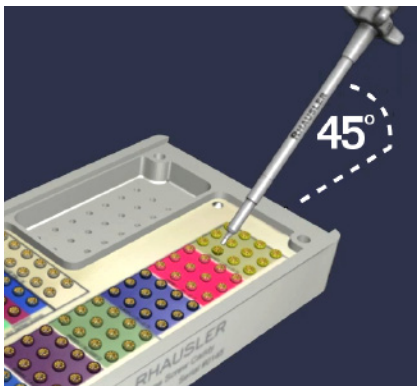

Figure 43
- When engaging the bone screws in the screw caddy, bring the hex end of the screwdriver to the selected bone screw at a 45-degree angle while holding the back end of the handle with one hand (fig. 43).